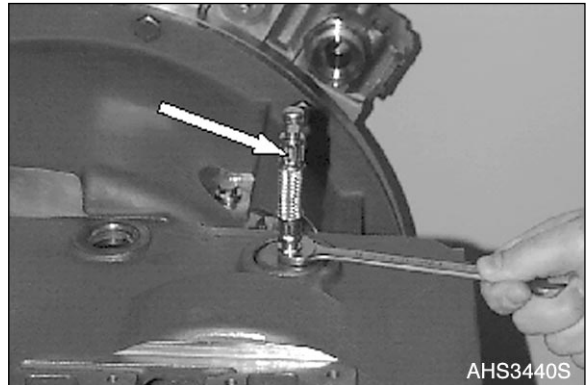

Figure 399
6. Install breather (Figure 399).